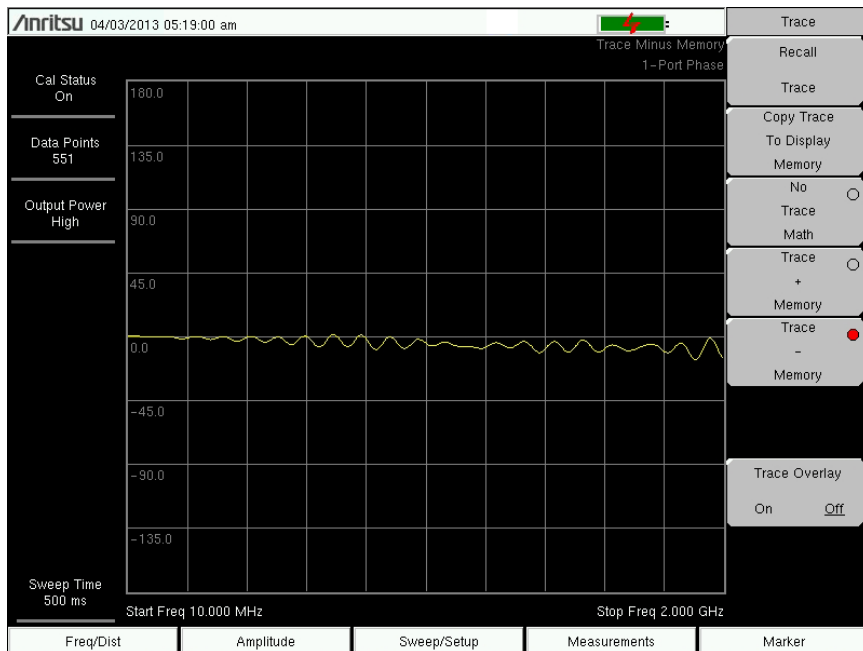

Figure 2-17. 1-Port Phase
5. Press the **Shift** key, then the **Calibrate** (2) key and perform a 1-port calibration at the desired reference plane. See “1-Port Calibration Procedure \(OSL\)” on page 3-1.
7. Press the **Shift** key, then the **Trace** (5) key.
11. Figure 2-17 on page 2-23 shows the difference in phase of cable A and cable B. The Trace Math menu is turned on and Trace A – Trace B is displayed.